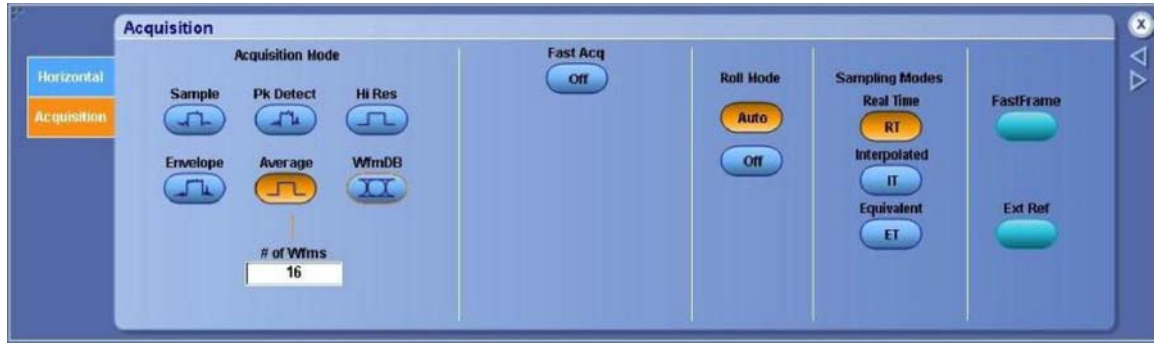

Figure 25: Oscilloscope Acquisition Mode Configuration
4.3.7.2.1 Configure oscilloscope Acquisition Mode to “Averaging”. See Figure 25 for details.
4.3.7.2.2 Refer to Figure 25 34 to understand voltages to be measured via the oscilloscope. Calculate De-emphasis and Preshoot Ratio's.